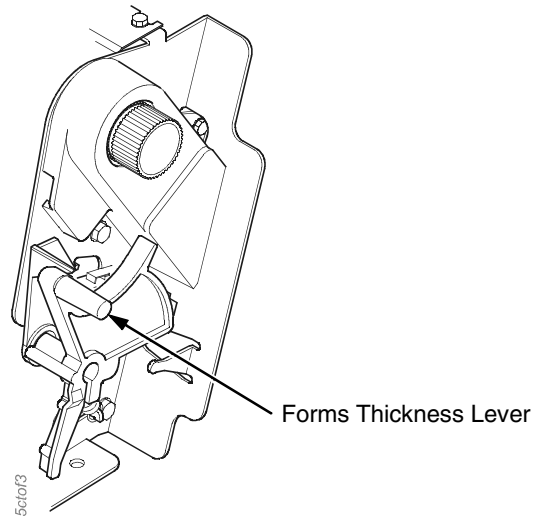

Figure 51. Raising the Forms Thickness Lever
1. Raise the forms thickness lever as far as it will go. The "CLOSE PLATEN" message will appear on the operator panel. Press any key on the operator panel to silence the alarm. See Figure 51.